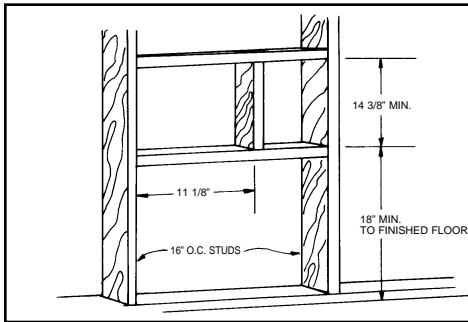

FIG. 3
- Install 2" x 4" headers as shown in Fig. 3. Note 18" minimum distance to finished floor.